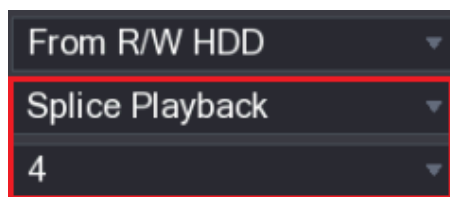

Figure 5-112
Step 2 In the **Search Type** list, select **Splice Playback**; In the Split Mode list, select **4**, **9**, or **16**. See Figure 5-112.